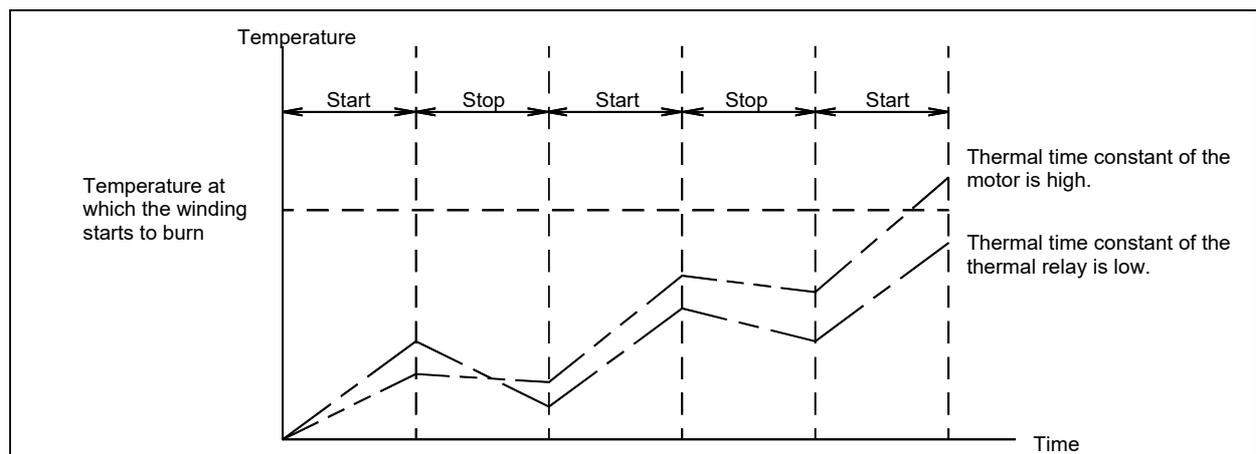

Fig.3.5 (I) Relationship between the temperatures of the motor and thermal relay on start/stop cycles
The OHAL alarm occurs when each built-in thermal relay detects a temperature higher than the rated value. However, this method is not necessarily perfect to prevent these failures. For example, if the motor frequently repeats to start and stop, the thermal time constant of the motor, which has a large mass, becomes higher than the time constant of the thermal relay, because these two components are different in material, structure, and dimension. Therefore, if the motor continues to start and stop within a short time as shown in Fig. 3.5 (I), the temperature rise in the motor is steeper than that in the thermal relay, thus causing the motor to burn before the thermal relay detects an abnormally high temperature.